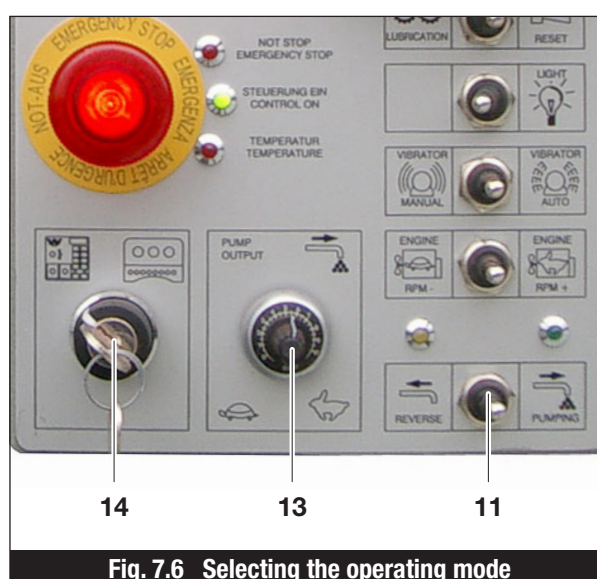

Fig. 7.6 Selecting the operating mode
- Set the operating mode selection switch (Item 14, Fig. 7.6) to "Control panel desk".
- Control each boom element individually by moving the respective control levers Element A (8), Element B (7), Element C (6) and Element D (5) in desired direction.